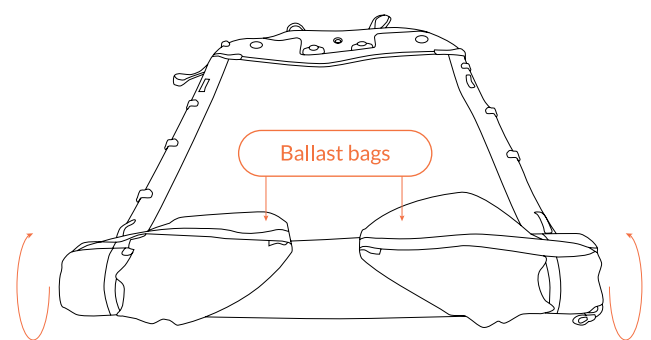

Fig 48 – Roll towards inflation valve
3. Start at the end containing the Air Toggle roll the Platform around the Air Toggle making sure the roll is straight and as tight as possible. (Fig 48)
4. As you roll position the Ballast Bags so they are flat against the rolled Platform. (Fig 48)